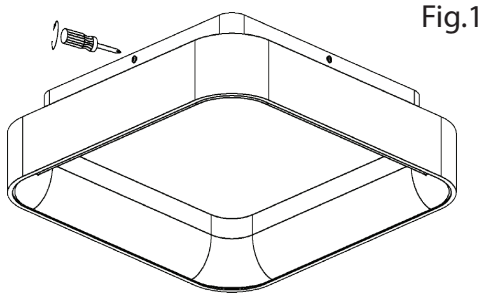

Fig.1
Step 2. Use screw drive to release 4 Canopy screw the bottom bracket side. See Fig.1